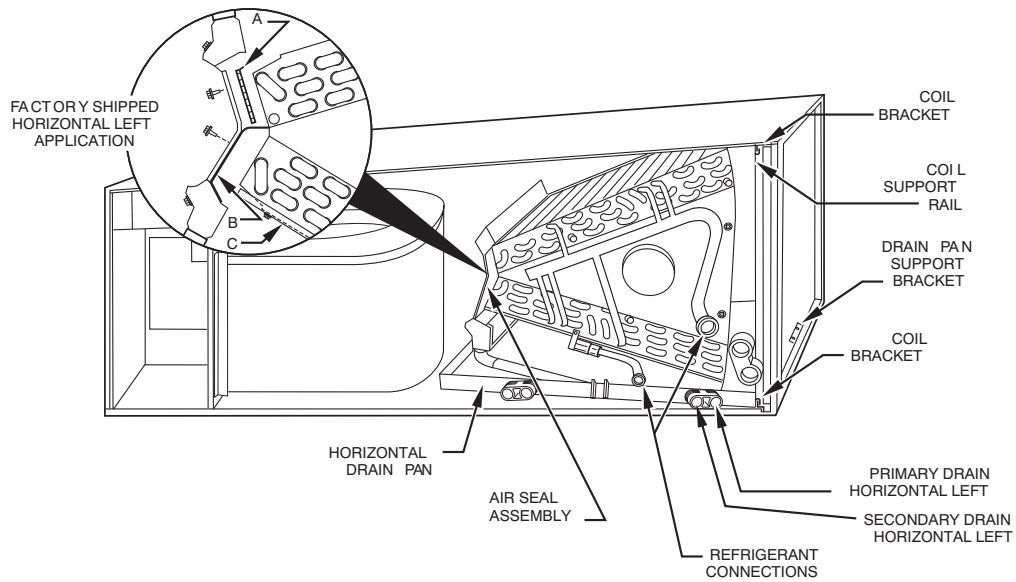

Fig. 4 - A-Coil in Horizontal-Left Application (Factory Ready)
2. When suspending unit from ceiling dimples in casing indicate proper location of screws for mounting metal support straps. (See Fig. 4.)